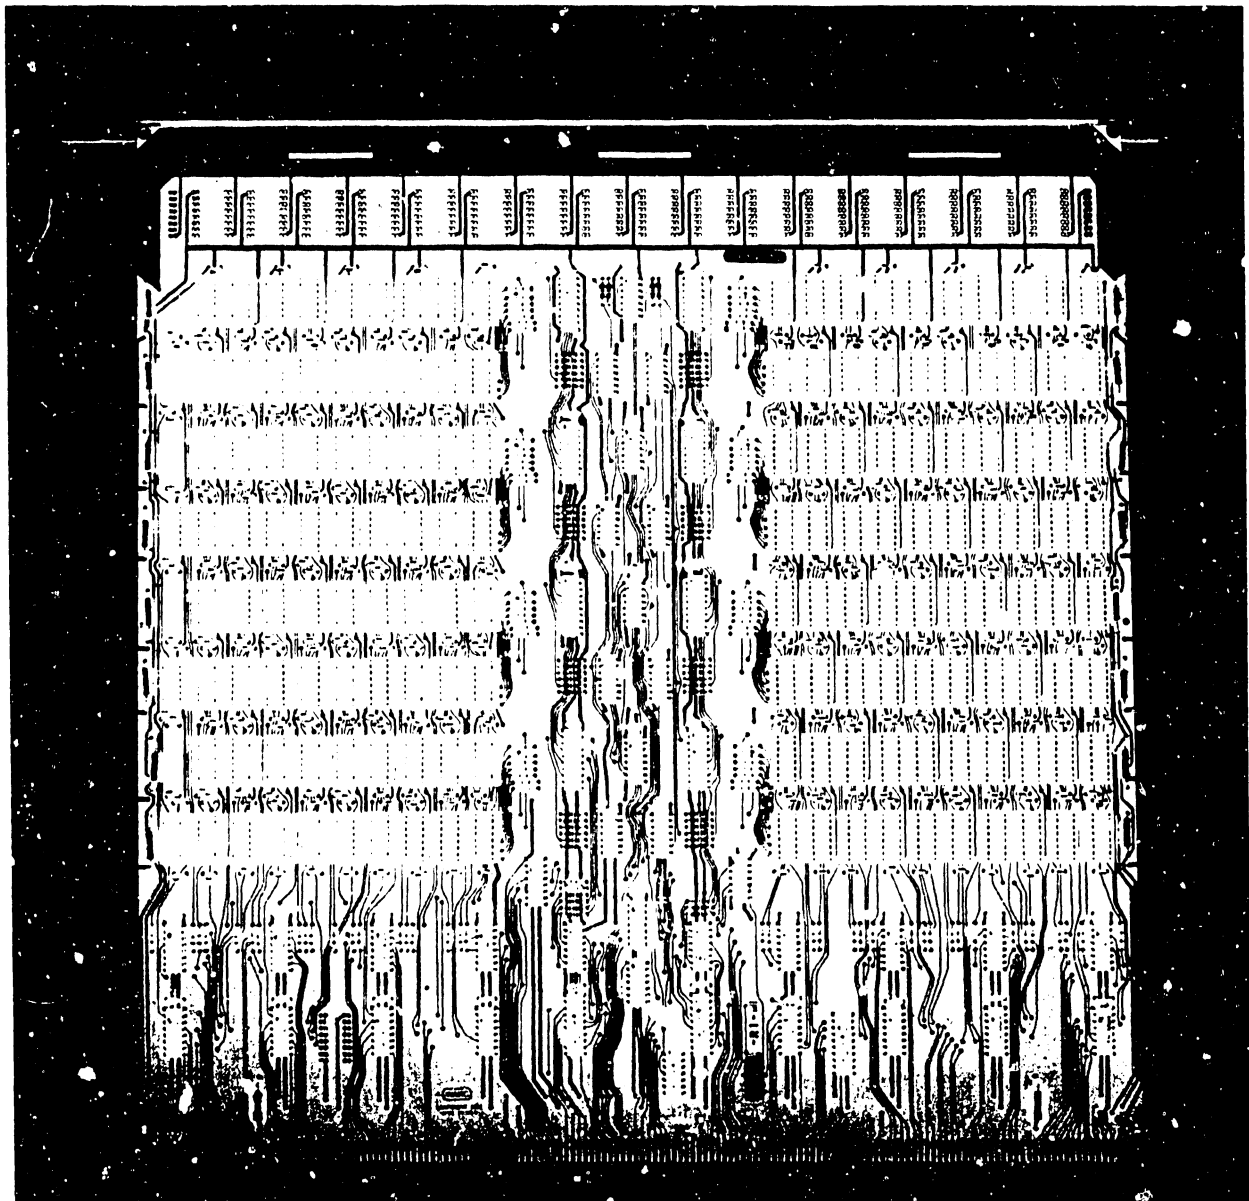

FIGURE 3-13 210-7603 MAIN MEMORY CARD
6. Install the 210-7603 Main Memory cards (see Figure 3-13) in pairs starting at Motherboard slot numbers 6 and 7. Cards in even-numbered slots (6, 8, 10, 12) contain even data words; cards in odd-numbered slots (7, 9, 11, 13) contain odd data words. The total number of PAIRED memory cards determines Main Memory size (refer to Table 3A). Ensure that the number of memory cards equals desired memory size (refer to work request). Do NOT leave open slots between memory cards.